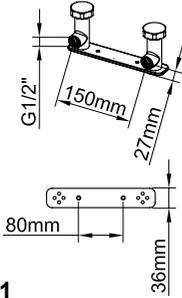

Fig 1
1. Prepare the recess on the floor and pipework. See Fig 1.
2. Arrange the pipework so that the hot water is connected with the left, ensure sufficient pipe length, make sure the pipe end screw into the Body Seat (2) a minimum of 10mm. See Fig 1.
3. Hold the Body Seat (2) at the position inside the cavity and mark the screw holes. See Fig 1.